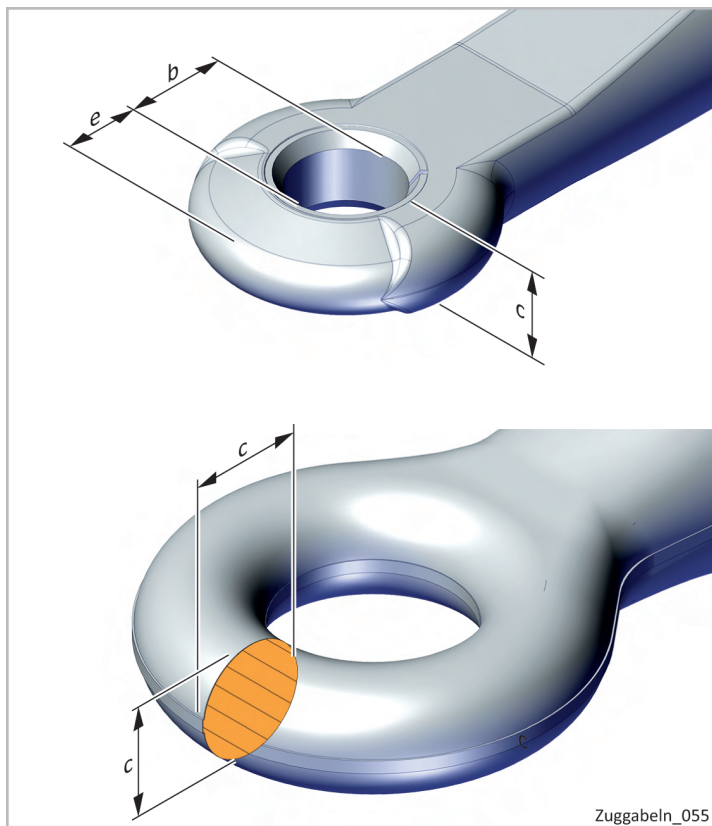

Figure 31: Towing eye wear limits
- Replace the towing eye or drawbar if they are outside the wear limits, see Fig. 31 and the tables Towing eye wear limits.